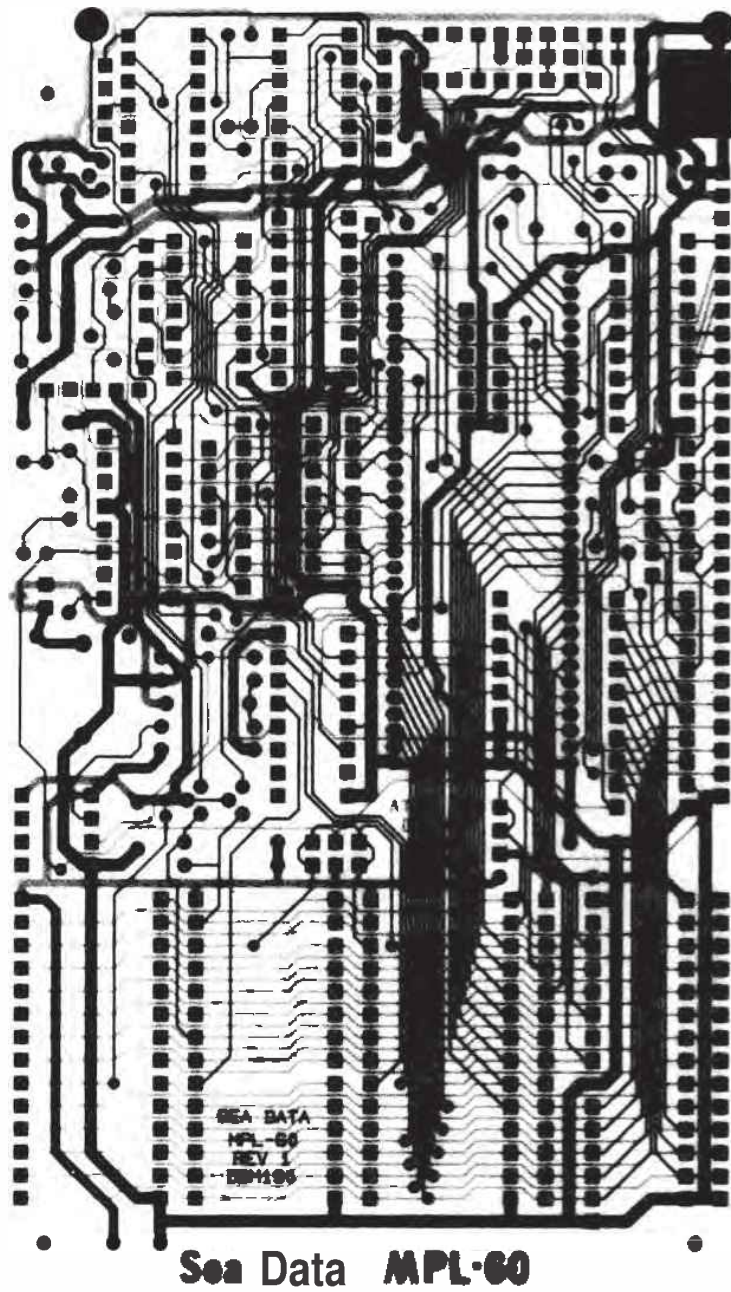

Figure 12.10. Photoplot for the double-sided board shown in Figure 12.11. Both layers are overlaid in this photograph, showing the view from the solder side.
- **Photoplot and drill tape.** If all has gone well, the last stage of the process consists of producing a machine-readable board description suitable for the PC house. For this you need two things: a tape that tells a photoplotter how to draw a precision plot of the "artwork" (the individual foil patterns for each layer, a pattern for the "solder mask," and a silkscreen pattern for printed legends) and a "drill tape," which tells each hole size and its precise position. The artwork tape is usually written in "Gerber format," named after a brand of photoplotter that exposes film by moving a large easel under a stationary projector in response to commands written on tape. (A newer form of photoplotter uses laser scanning, producing large plots in minutes rather than the hours required by the early Gerber machines.) Some PC board fabricators want you to supply the finished photoplots (Fig. 12.10), whereas others ask for the Gerber tape itself. A surprising number of board houses ignore the drill tape, preferring to figure out where the holes go by manually digitizing the photoplotted artwork (if you ask, they'll tell you that customer-supplied drill tapes sometimes have crazy commands that break their drill bits). Drill tapes, believe it or not, are not magnetic tapes; they are *paper* tapes!